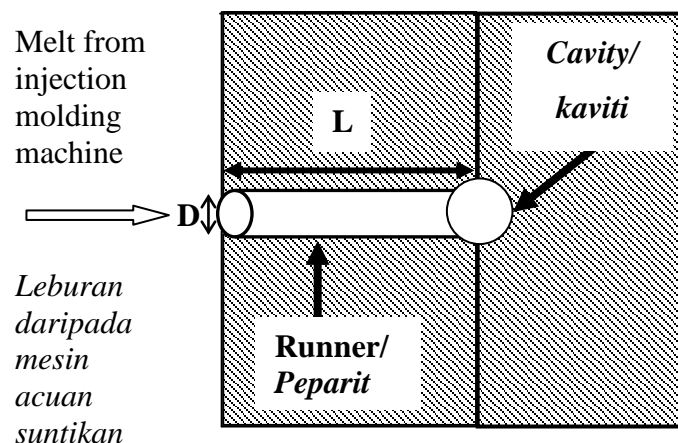

Figure 3: Schematic representation of a mould setup for button production
- 4 [a] The following figure (Figure 3) depicts a preliminary design of a mould intended for the production of buttons. The weight of each button is 4 g and the density of the polymer melt is 800 kg/m^3 . The cavity filling must be accomplished in 10 seconds. The runner is cylindrical, with length $L = 40 \text{ mm}$ and diameter $D = 2.5 \text{ mm}$. Assuming that pressure drop occurs only inside the runner (which means that you can ignore the pressure drop inside the cavity), determine the pressure required to fill the cavity in the required time.